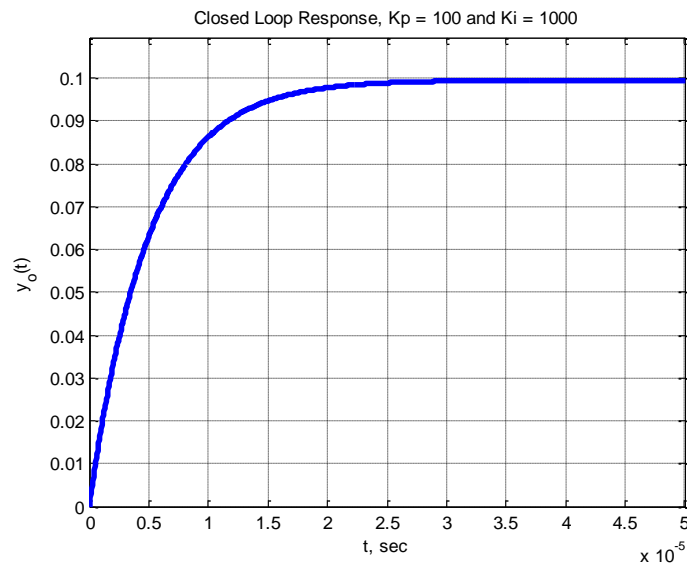

Figure 4: Proportional-Integral (PI) Control
- You should observe that the settling time is shorter and we also match the reference input. The correct response for the first controller is shown in Figure 4.